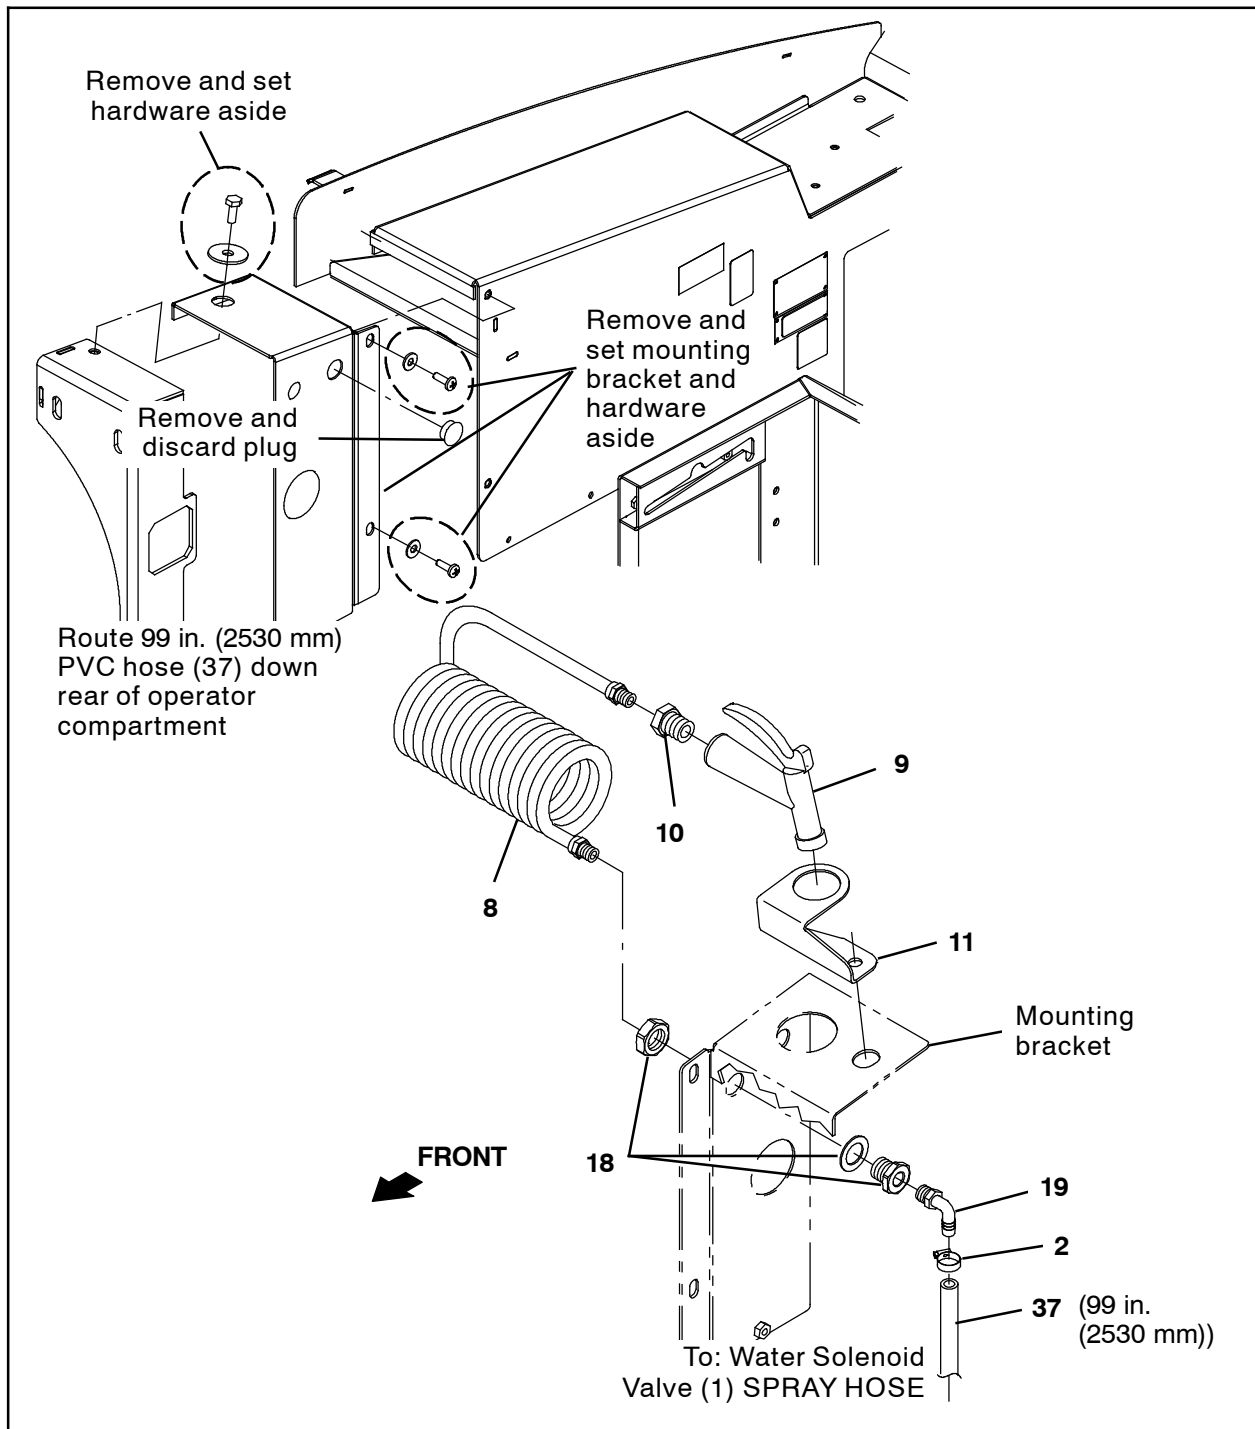

FIG. 5
9. Remove the mounting bracket from the rear corner of the operator compartment. Set the mounting bracket and hardware aside. (Fig. 5)
10. Remove the plug from the mounting bracket removed in the previous step. Discard the plug. (Fig. 5)
11. Remove the lock washer and nut from straight fitting (18) and install the straight fitting into the mounting bracket where the plug was previously located. (Fig. 5)
12. Apply sealant onto the threads of the 90° plastic fitting (19) and thread the 90° plastic fitting into the straight fitting (18) installed into the mounting bracket. (Fig. 5)
13. Use a hose clamp (2) to install the 99 in. (2530 mm) PVC hose (37) onto the 90° plastic fitting (19). (Fig. 5)
14. Route the loose end of the 99 in. (2530 mm) PVC hose (37) down the back of the operator compartment. (Fig. 5)
15. Use the saved hardware to reinstall the mounting bracket onto the rear corner of the operator compartment. (Fig. 5)
16. Apply sealant onto the threads at one end of the coiled water hose (8) and install the hose into the straight fitting (18) installed in the rear of the operator compartment. (Fig. 5)
17. Use the saved hardware to install the spray handle mounting bracket (11) onto the previously reinstalled mounting bracket. (Fig. 5)
18. Thread the straight brass fitting (10) into the spray gun (9). (Fig. 5)
19. Apply sealant onto the threads at the other end of the coiled water hose (8) and thread the spray gun (9), with brass fitting already installed (10), onto the coiled water hose. (Fig. 5)